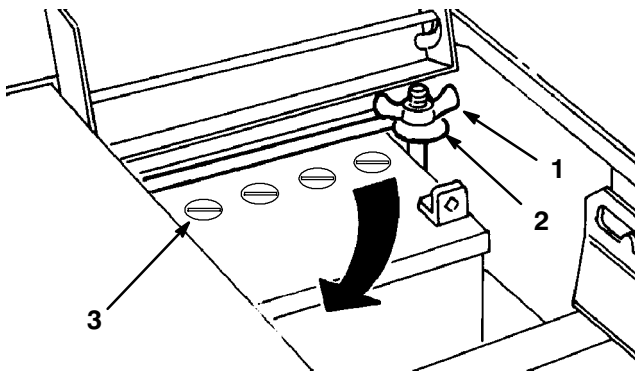

Figure 28
3. Disconnect the negative (black) ground cable from the battery post (Fig. 28).
4. Slide the rubber cover up the positive (red) cable. Disconnect the positive (red) cable from the battery post (Fig. 28).
5. Remove the wing nut securing the battery hold-downs to the tractor chassis (Fig. 28).